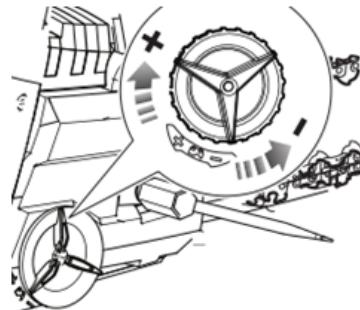

Fig 12
- Remove all slack from the chain by turning the chain tensioner clockwise until the chain seats snugly against the bar with the drive links in the bar groove. (Fig 12)